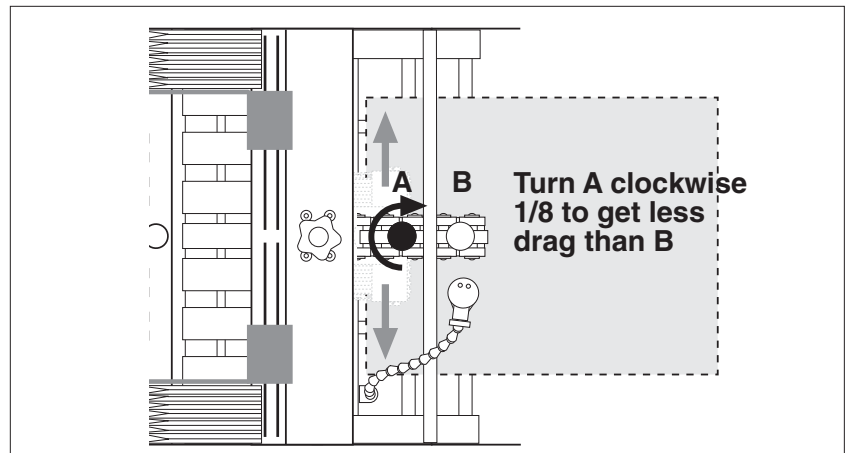

Figure 2-15. Turning Knob “A” Clockwise to Get Slight Drag
3. Turn knob A clockwise 1/8-turn (Figure 2-15) so that slightly less drag exists on the roller closest to gate assembly. Again, verify drag by sliding product side-to-side.